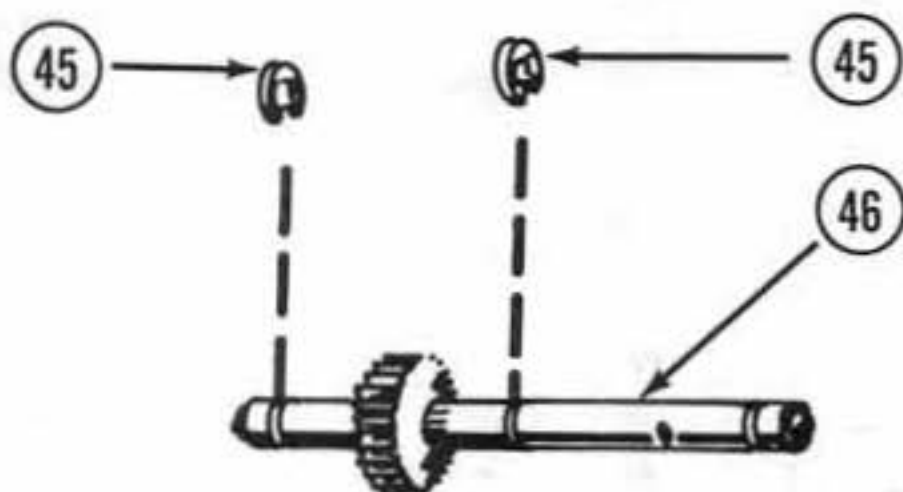

FIG. 11
10. Attach two large 3/16" E-clips (54) to pinion shaft assembly (46). Fig. 11